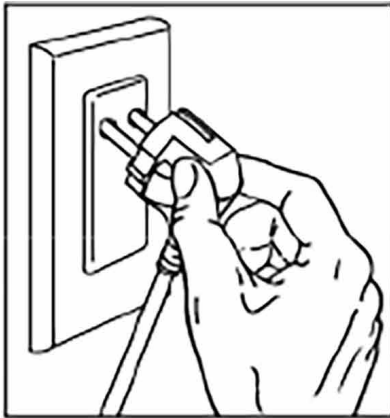

Figure 1
1. Plug-in the sander's AC power cord to the power source (220VAC output). The warning " beep " sounds would be occurred after the plug is securely plug-in to the power source and the LED indicator shows " Solid Red " color at the moment.- see figure 1.